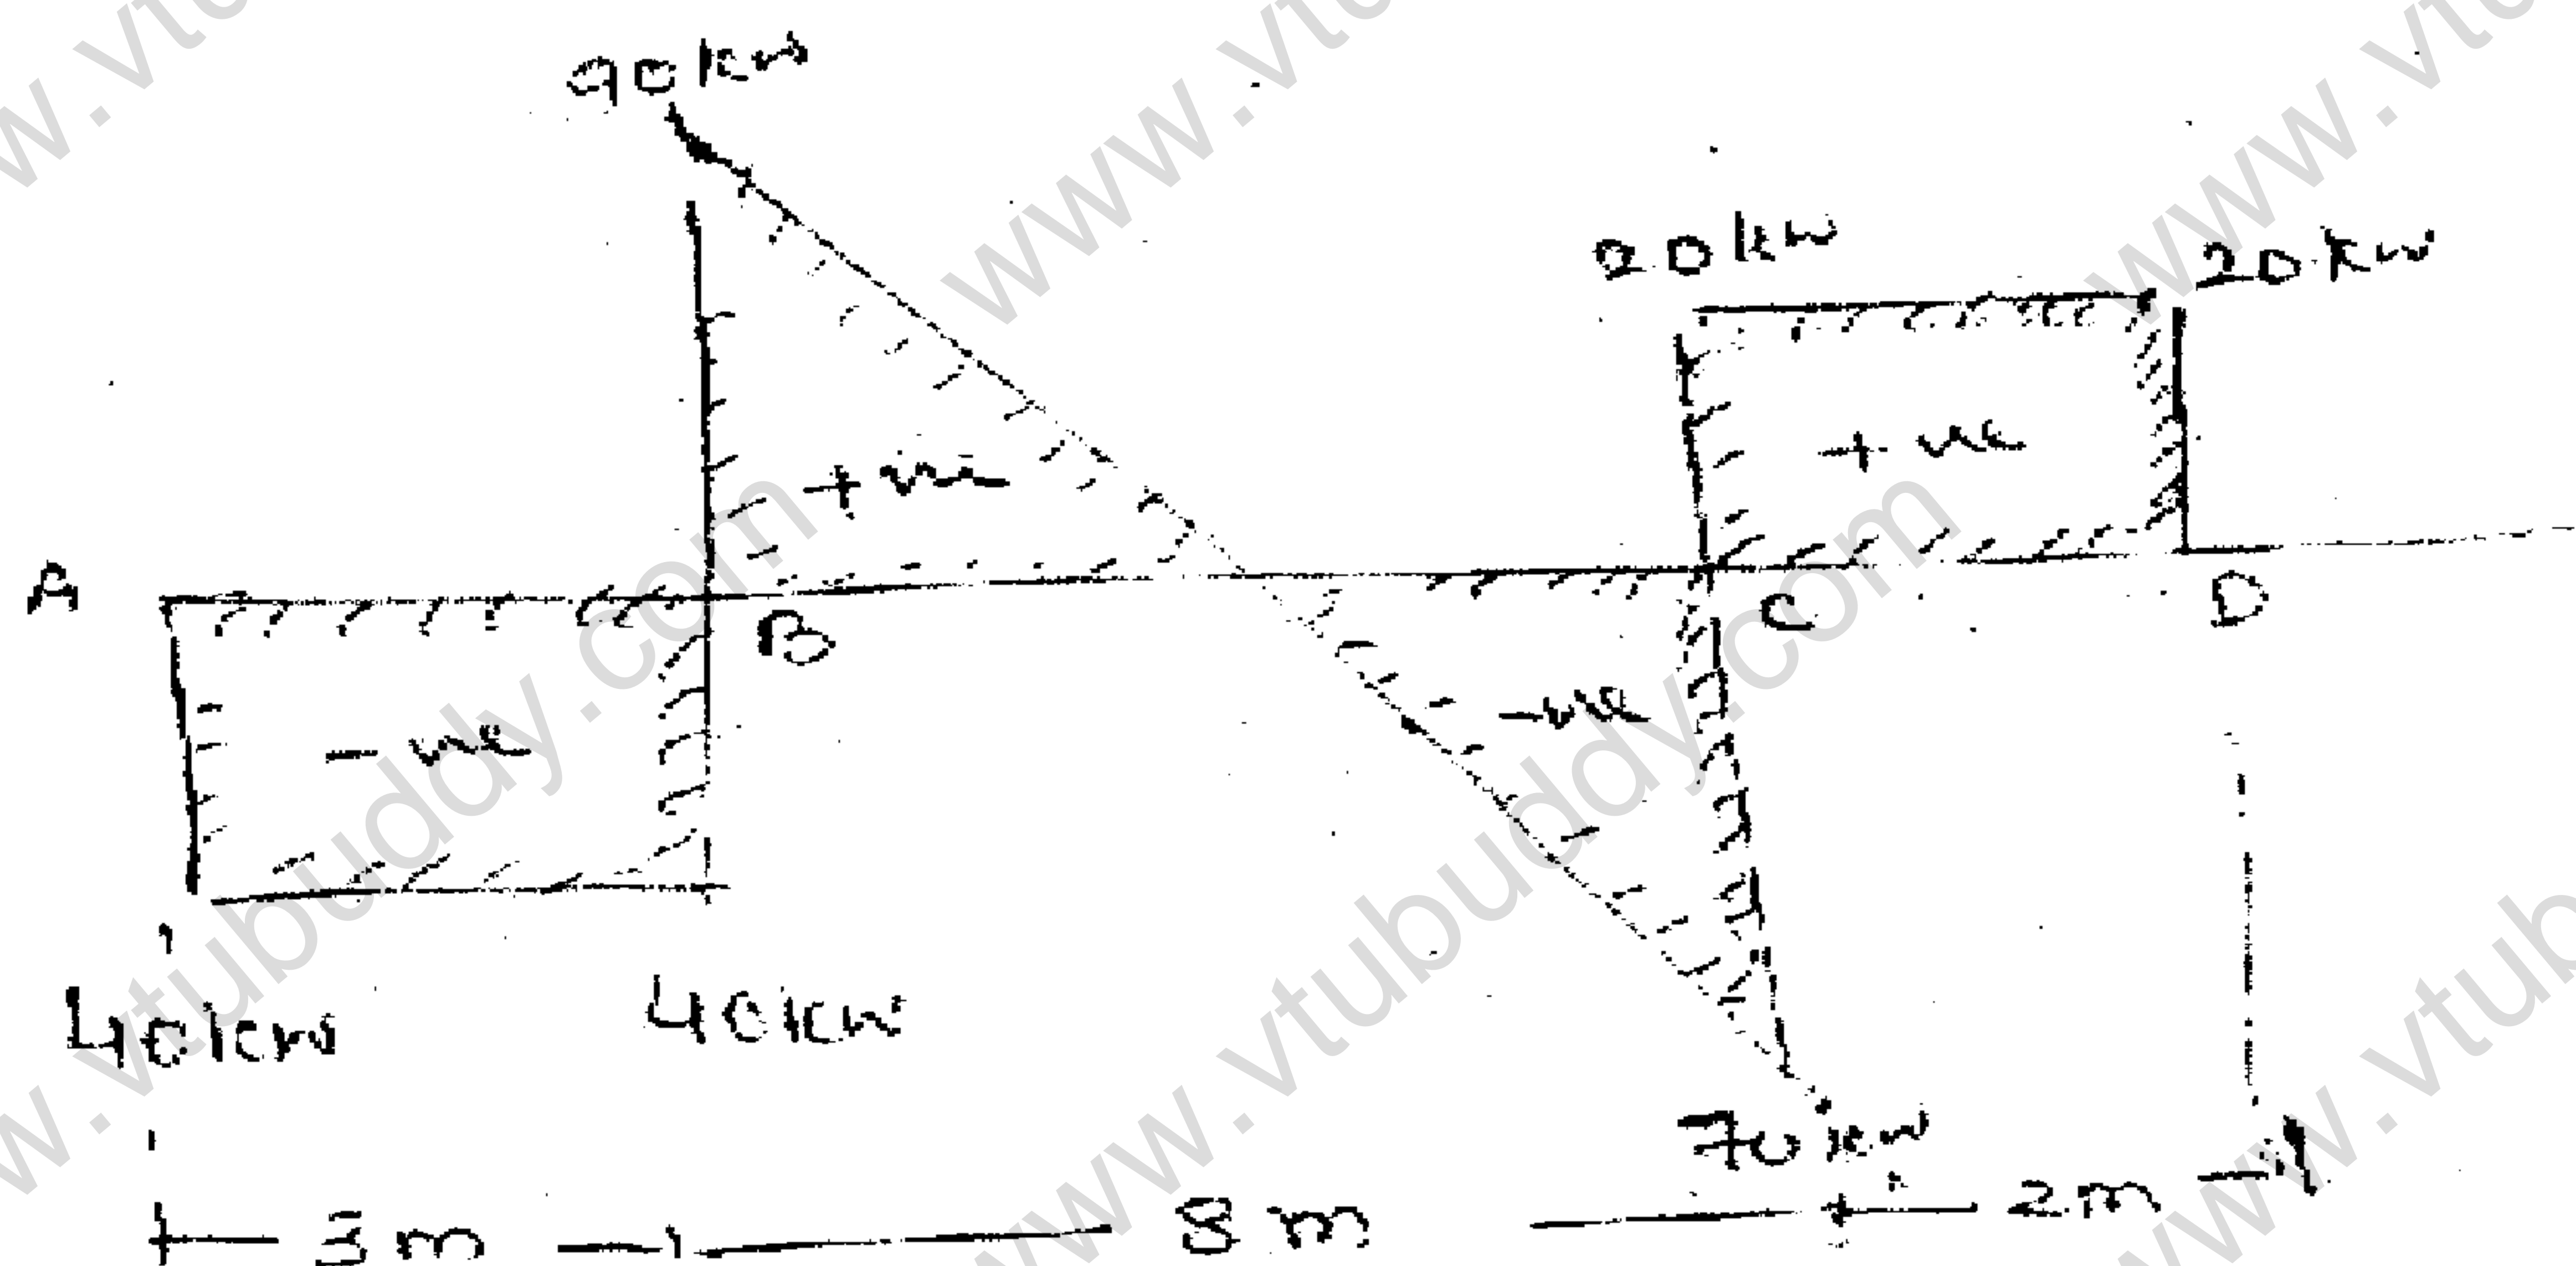

Fig. Q 4(b)
- b. From the given shear force diagram shown in the Fig. Q 4(b) develop the load intensity diagram and draw the corresponding bending moment diagram indicating the salient features.